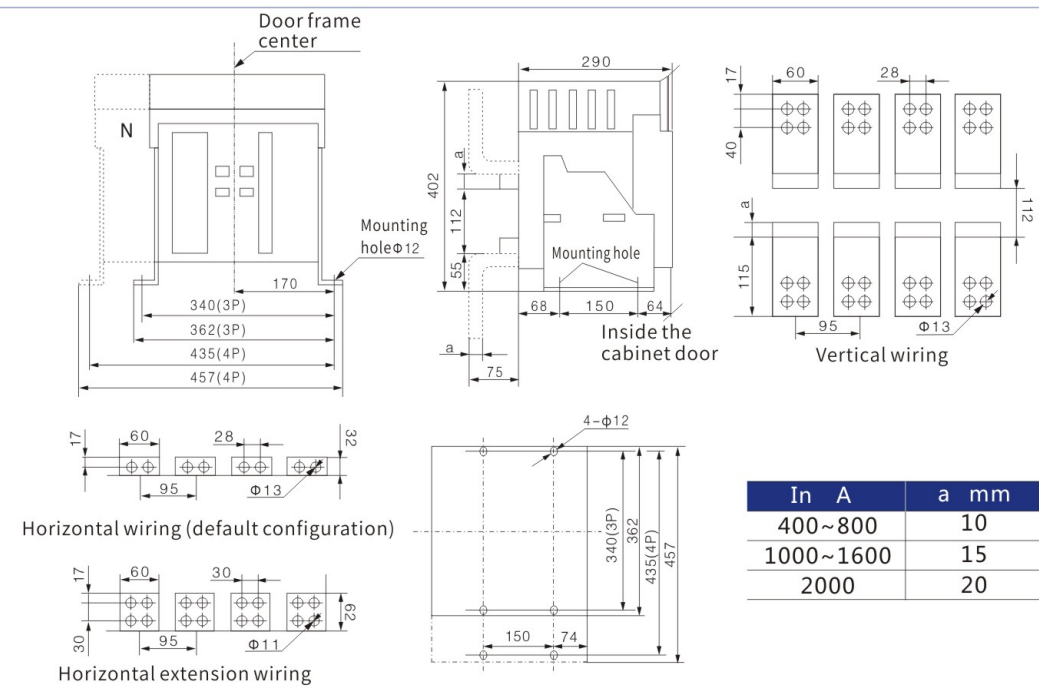

Figure 8 Outline and installation dimension of fixed type circuit breaker (W1-2000, 2000/4)
• 1. The outline and installation dimension of fixed type circuit breaker is shown in Figures 8 and 9